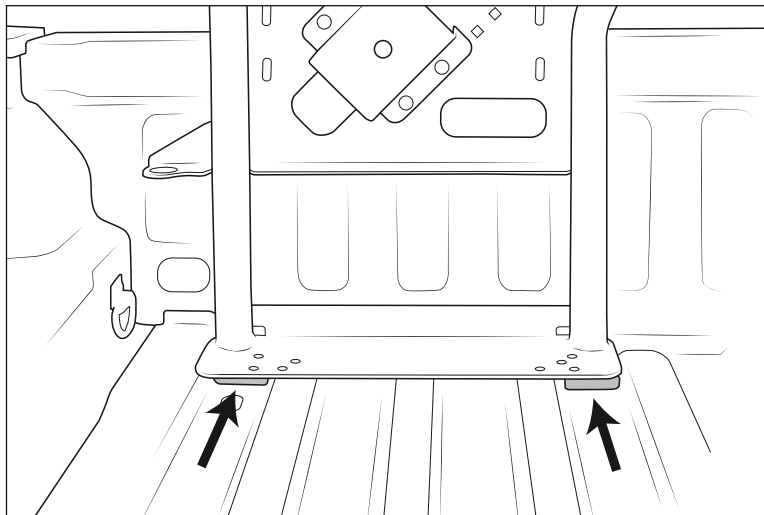

Figure 4
6. Place the two provided Spacers under the Tire Carrier as shown (fig. 4). Adjust the Tire Carrier position side to side to align with spacer holes. Check that the Bulkhead Bracket is aligned with the Tire Carrier and adjust as necessary. NOTE: The Spacers should be pushed all the way forward, this will locate the Tire Carrier position front to back.